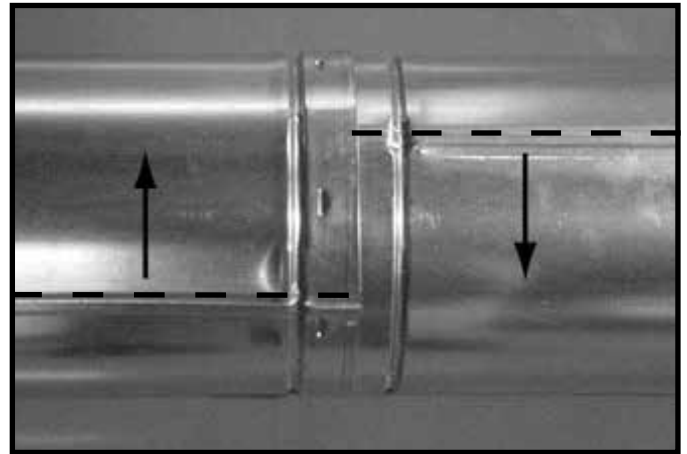

Figure 7.7 Rotate Seams for Disassembly
- Rotate either section (see Figure 7.7) so the seams on both pipe sections are aligned as shown in Figure 7.8.